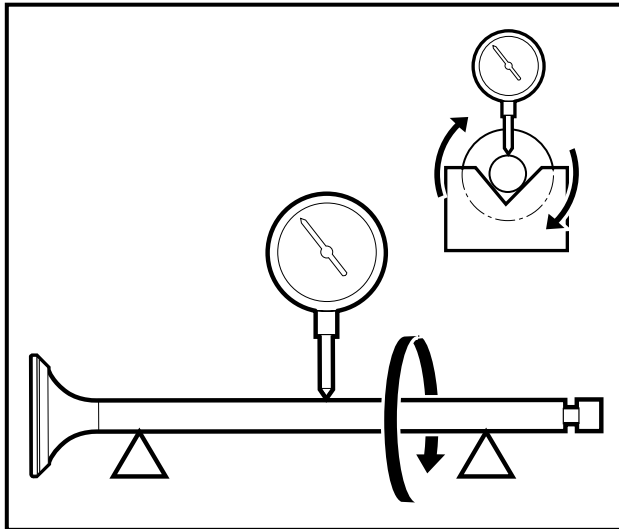

Figure 13-29 Measure Valve Stem Bend
1. Support the valve in V-blocks at each end of the stem **(Figure 13-29, Page 13-18).**